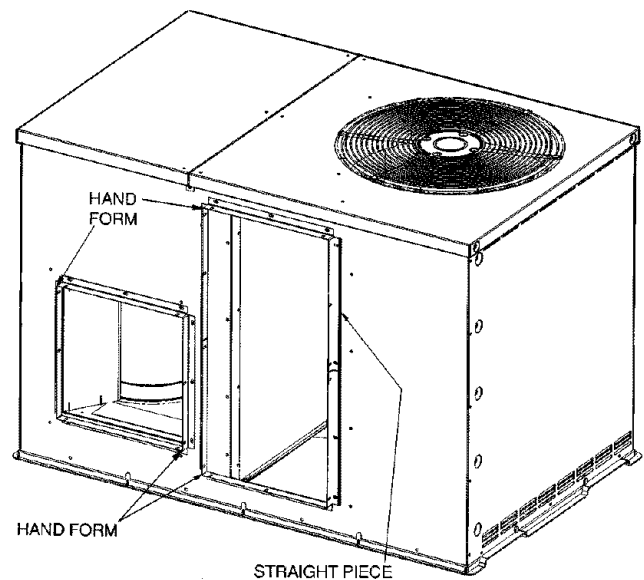

Fig. 6 — Flanges Installed on PA1Z060 Units
3. Install the straight flange on the right side of the return air opening in holes provided. See Fig. 6. Flanges should stick out from unit to allow for connection of ductwork.